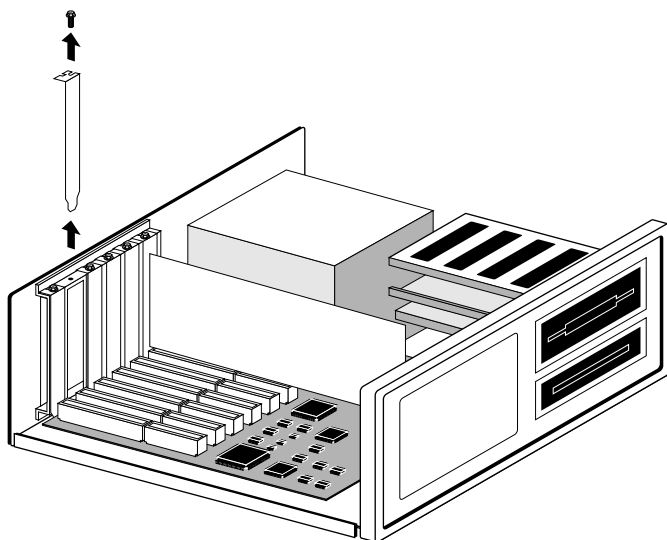

Figure 2-3 Removing the Backplate
- 2 Remove the screw holding the expansion slot's backplate, as shown in Figure 2-3.